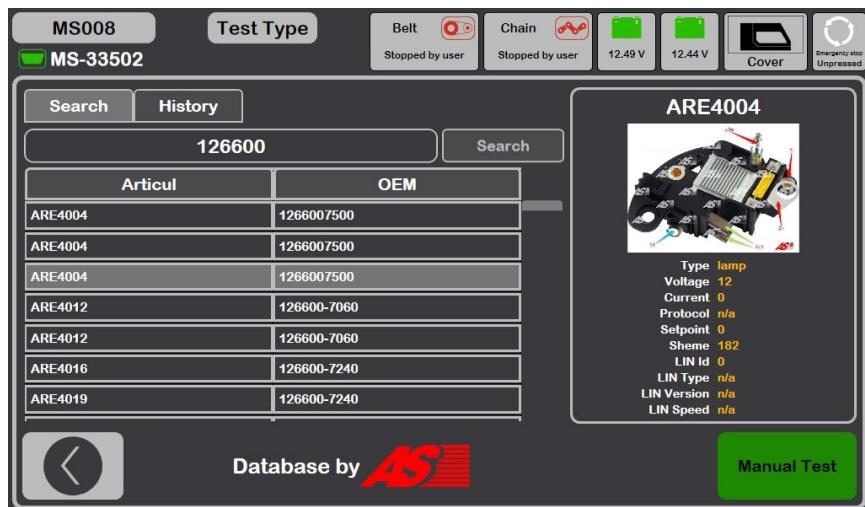

Figure 26. Regulator database search display
4. Before activating the diagnostic mode, a preliminary alternator check window will open, see Fig. 26.
Referring to the voltage regulator OEM, find the information on the regulator connector terminal references in the bench database (fig. 26): Then connect the diagnostic cable wires and bench outputs to the regulator, referring to the provided layout.